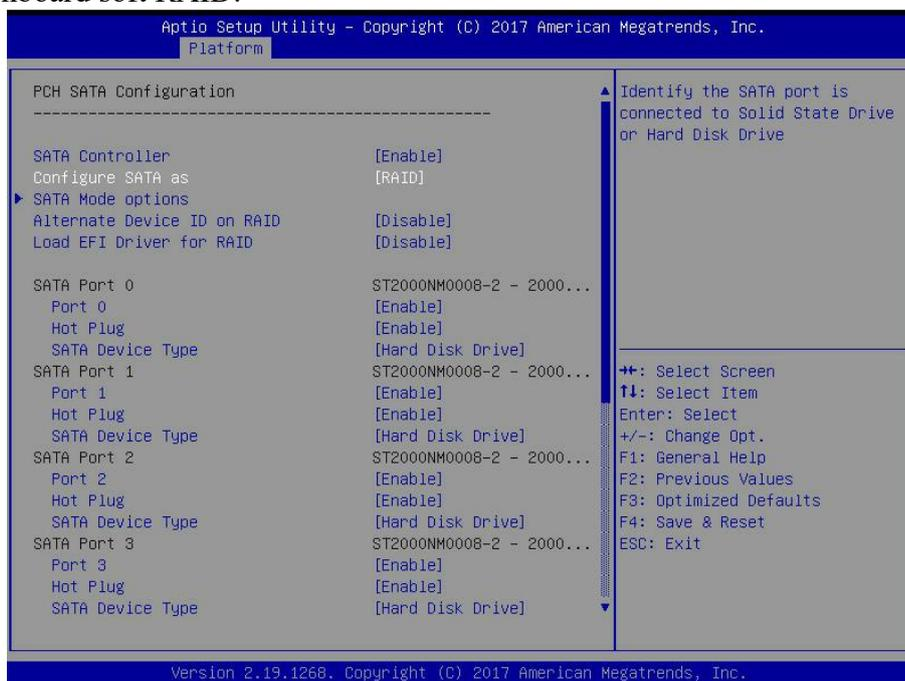

Fig.6.14
- c) Enter the interface shown in Fig. 6.14, select Configure SATA As, press Enter, and select the working mode of RSTe onboard soft RAID.